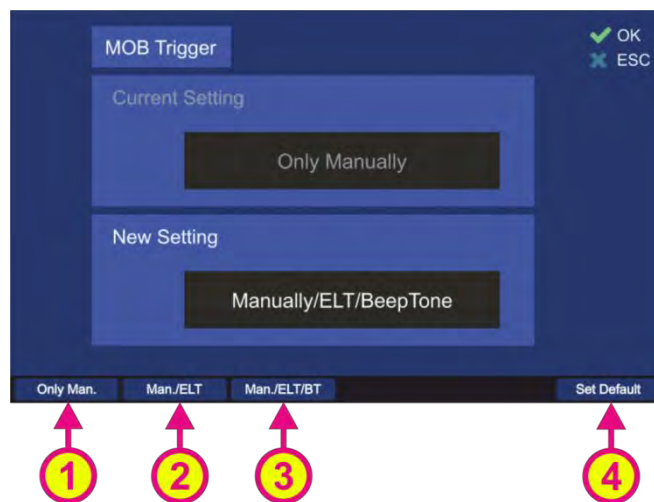

Figure 103. MOB trigger dialog
To adjust the trigger event for starting the MOB mode, press the "OK" button or hotkey "Edit Value", while the setting "MOB Trigger" is marked. The following dialog will open (s. Figure 103).
- o Choose the new setting using one of three hotkeys (s. Figure 103, positions 1, 2 and 3), which will then appear in the "New Setting" field.
- o Press the hotkey "Set Default" (s. Figure 103, position 4), to use the default value ("Only Manually").